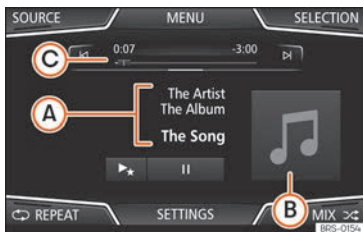

Fig. 196 Media main menu.
- Press the infotainment button **MEDIA** / to open the *Media* main menu » **Fig. 196**.
The media source being played is indicated on the dropdown list when pressing the **SOURCE** function button » **Fig. 196**.
Changes track in Media mode or fast forward/rewind » Fig. 196 .